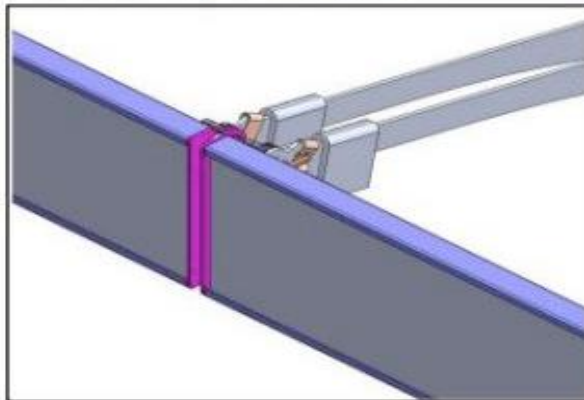

Figure 4
b. Ensure the header clip is pushed up against the back of the U-Clips (See Figure 4).